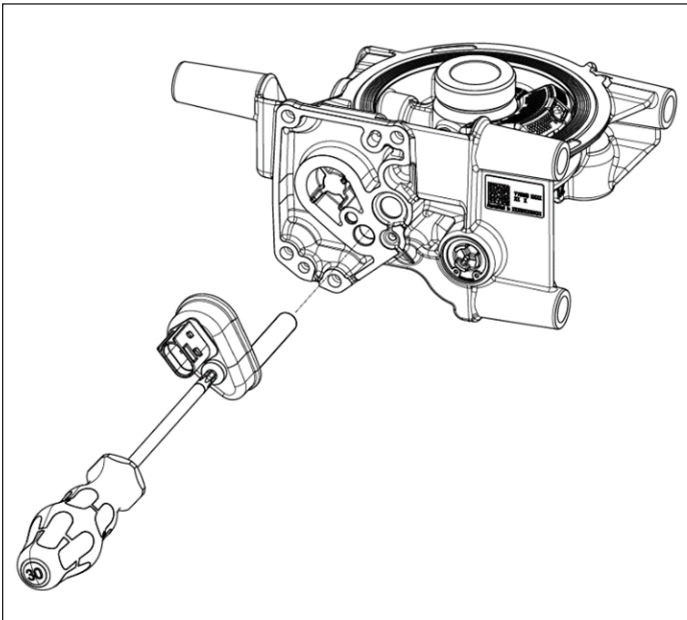

Figure 2 – Disassembly
2. Unscrew the mounting screw that secures the heater assembly to the air dryer body using a T-30 Torx® drive. See Figure 2.